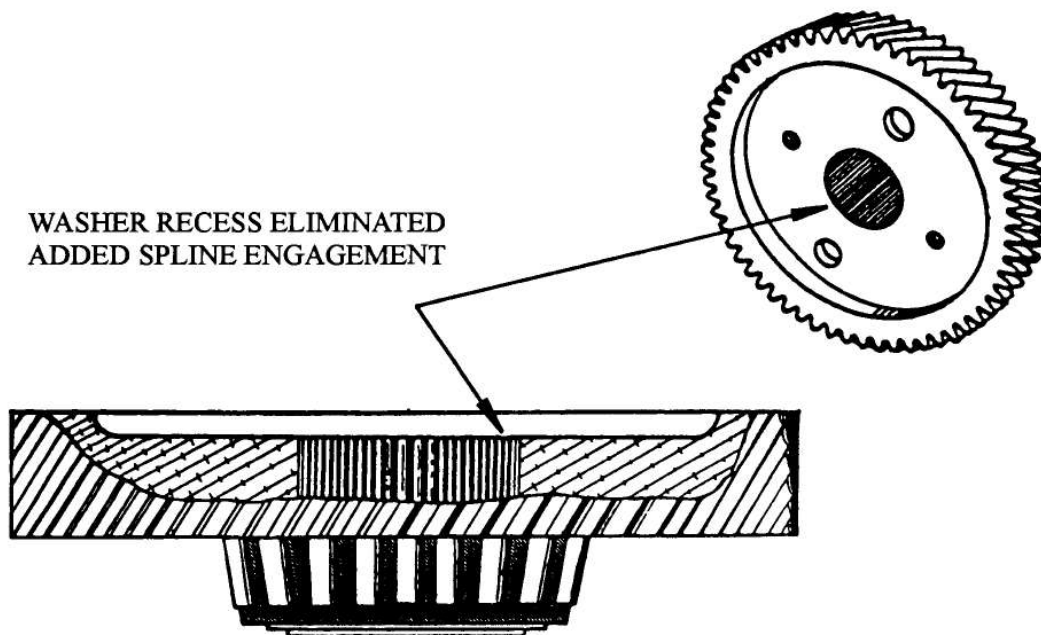

Figure 29
- (1) **TRANSFER GEARS** - The helix angle of the teeth on both transfer gears changed from 27.5 degrees to 32 degrees. The new design transfer gears can be easily identified by the removal of the washer recess area in the center of the gears, as shown in Figure 29. This was done to create more spline engagement, to accommodate higher torque engines.